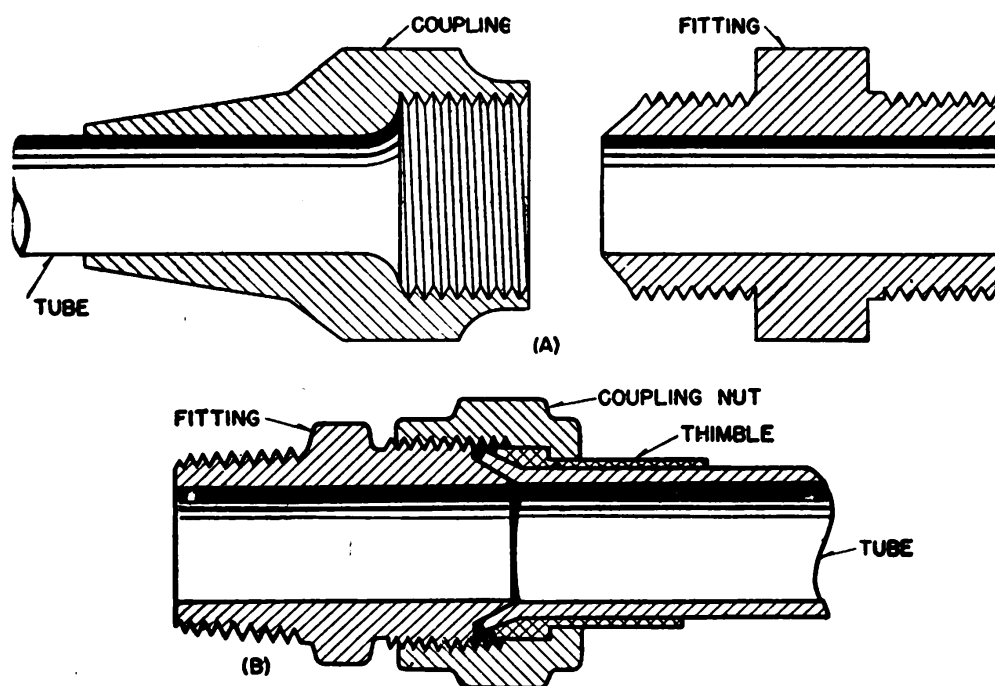

Figure 6.—Coupling for airplane fuel systems.
FLARED-TYPE COUPLINGS are used for connecting up aluminum-alloy tubing. In the type that you see in figure 6 (A), the coupling consists of two pieces, one having an internal thread and the other an external thread. The internal member is slipped over the end of the tube. The end of the tube is flared, so as to fit the seat in the fitting. The external-threaded member is then screwed into the
The tube to be flared is clamped between the two blocks and the upper end of each tube hole is countersunk to conform to the exact shape of the desired flare on the tube. A punch or flaring pin is moved into position directly over the end of the tube in the countersunk hole, and is then struck with a hammer until the tube is properly flared. Unless the end of the tube is square and smooth—you should use a file for this purpose—you will probably get a one-sided or cracked flare. Make the flare slightly longer than the taper on the end of the clamping nut, and a little shorter than the tapered surface on the fitting, as is shown in figure 6 (*B*). Do not make the flare too long, however, as it will not be drawn down tight on its seat, and a poor joint will result.